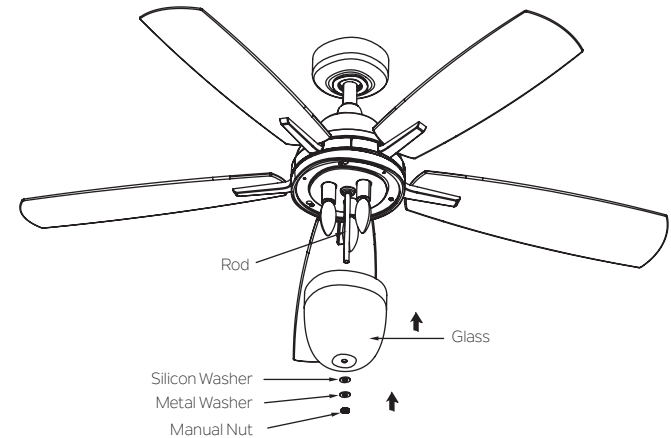

Fig. 23
Step 4. Hold the glass up through the rod, secure with silicon washer, metal washer and manual nut. (Fig.23)